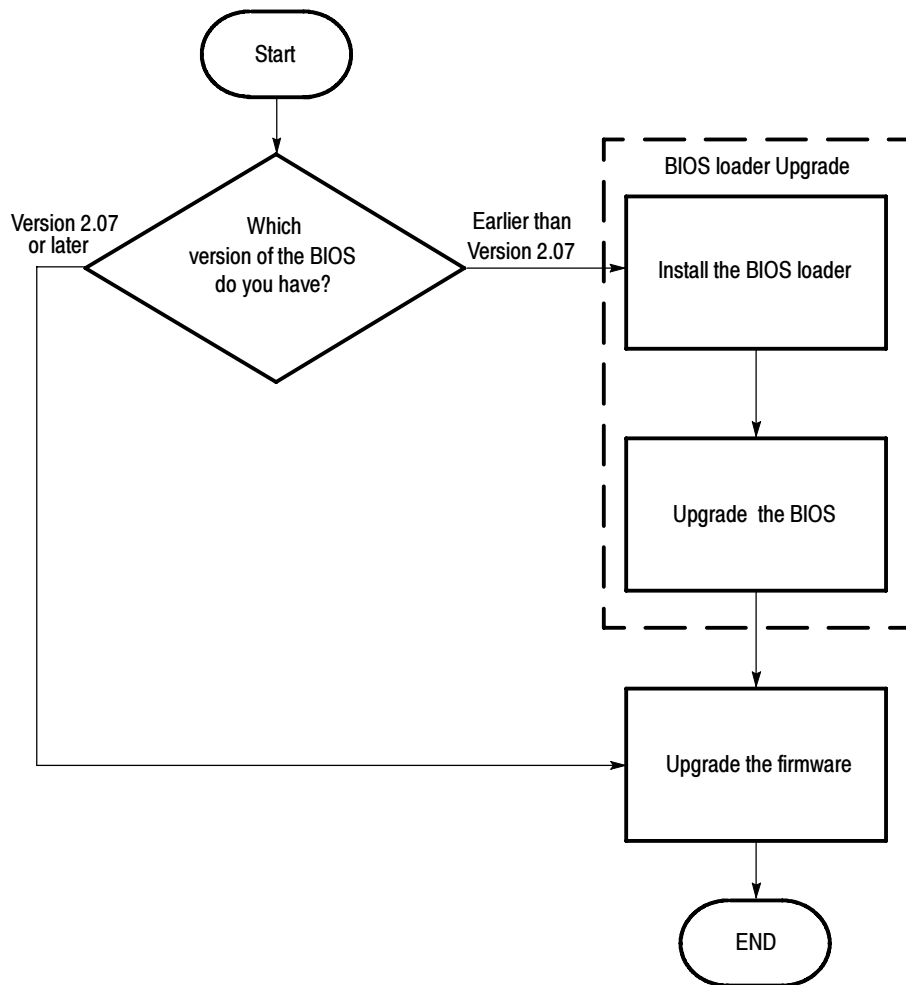

Figure 4: MTM400 upgrade path
- Refer to Figure 4 and identify which upgrade steps are required for your instrument.
Perform this procedure only if the BIOS version of your instrument is earlier than v2.07 (see Figure 4 on page 10).